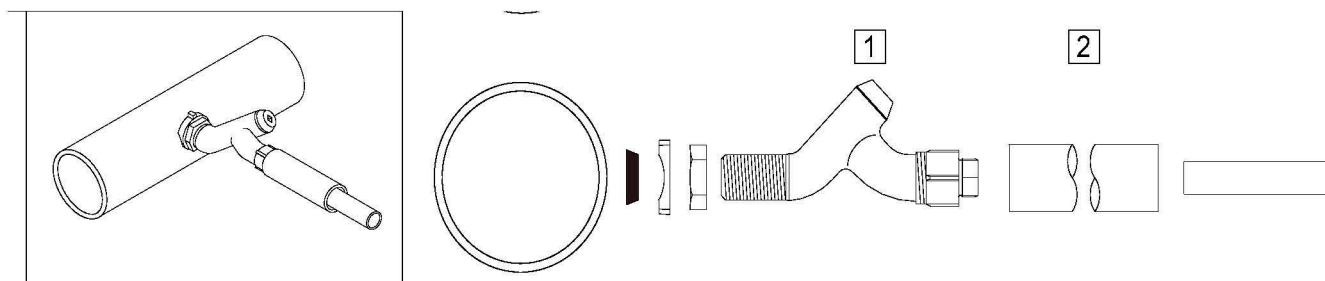

Figure A24 Example of Side Entry Tee.
4. Ensure that the correct tooling for installation of side entry is tee used. The manufacturer of the drilling machine or supplier of fitting will provide the ancillary tooling for the tee to be used (Figure A24).